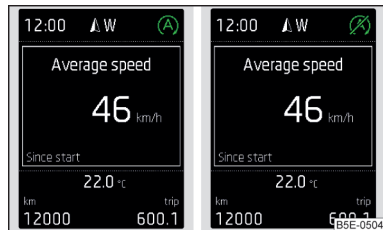

Fig. 156
If, after stopping the vehicle, the check icon  » Fig. 156 appears on the display, then the conditions for automatic engine shutdown are not met.
Automatic engine shutdown then occurs and the indicator symbol appears in the display (A) » Fig. 156 on page 158.